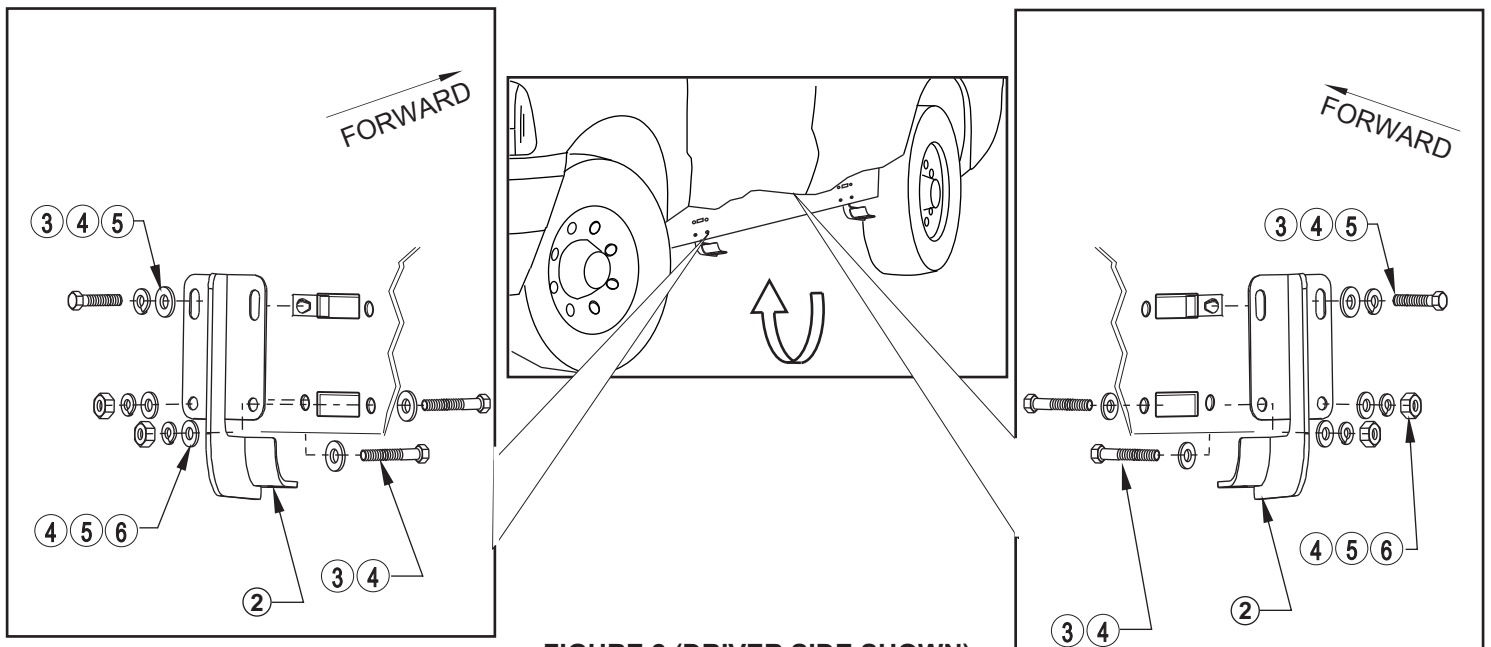

FIGURE 2 (DRIVER SIDE SHOWN)
- STEP 3. Install front and rear brackets as shown. Hand tighten. SEE FIGURE 2.